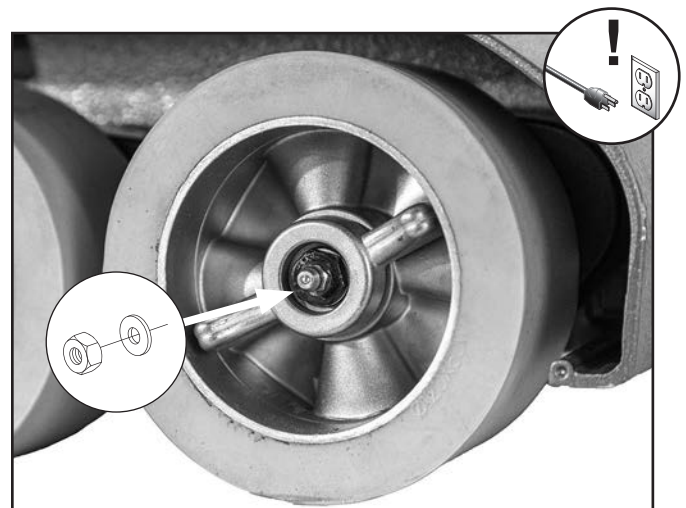

Figure 38. Roller hex nut location.
2. Remove hex nut and washer that secure roller (see **Figure 38**).